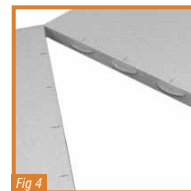

Fig 4
4. Cut slots and make sure your No.20 biscuits fit. (Fig 4)